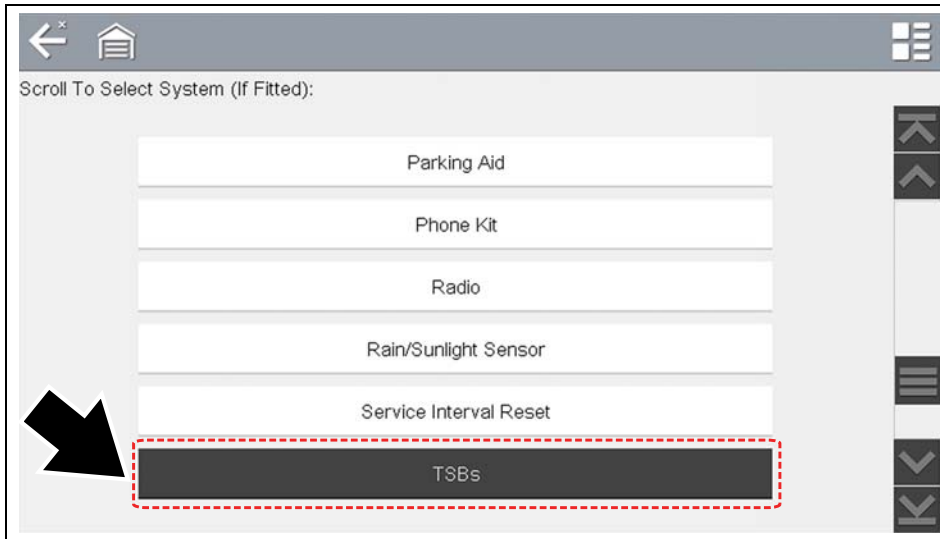

Figure 8-4
1. From within a current Scanner session select **TSBs** from the System menu (Figure 8-4).